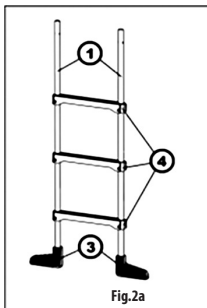

Fig.2a
Press all plastic treads (4) on the two pairs of stiles (Fig. 2a) taking care to maintain the same orientation of all treads.